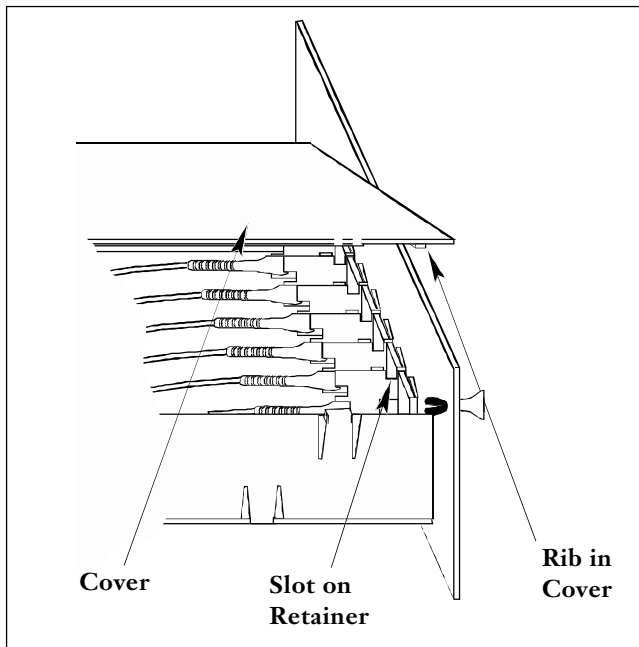

Figure 7
8.2 Once all the retainers are in place, place the covers (top and bottom) on the module by snapping them into place. Notice that the rib on the inside-front of the cover fits into slots in the connector retainers (Figure 7). When the cover snaps into place, this rib secures the retainers. If one of the covers does not snap into place with ease, check to make sure all the retainers are seated and the slots line up.